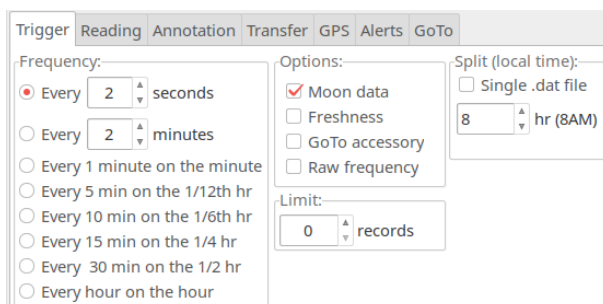

Figure 7.30: Log Continuously Trigger tab
**Log Continuous Trigger** options must be defined before logging, see Figure 7.30 for possibilities: